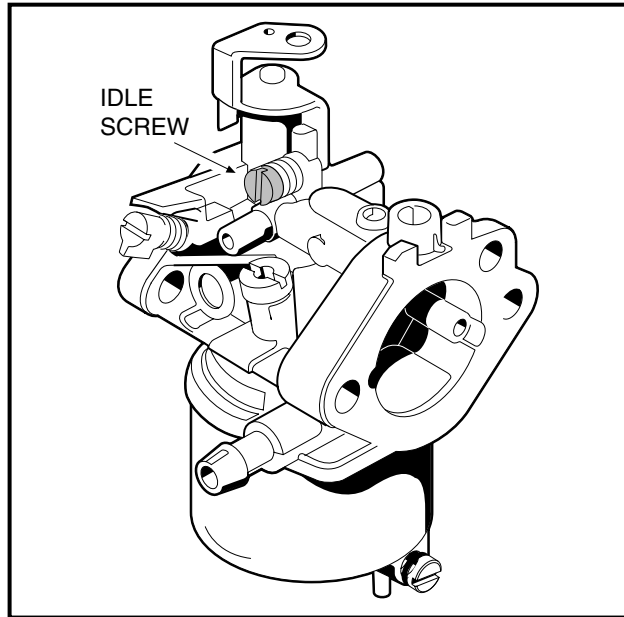

Figure 14-8 Idle Screw
1. With the engine running and the Forward/Reverse handle in NEUTRAL, position a tachometer (CCI P/N 1016112) close to the spark plug wire and plug, and adjust the low idle screw on the carburetor until the tachometer reads 1200 to 1250 RPM (**Figure 14-8, Page 14-10**).